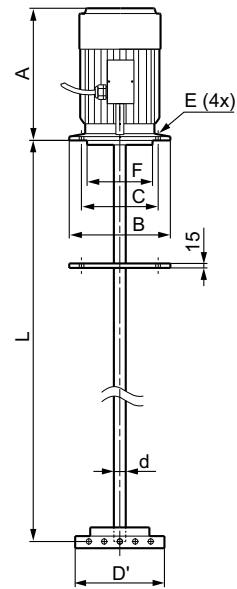

Fig. 3 PP version* with turbine as mixer
- Minimum distance between level switch and mixer: twice the diameter of the mixer ($\varnothing D$ or $\varnothing D'$) above the mixer (see Fig. 3).